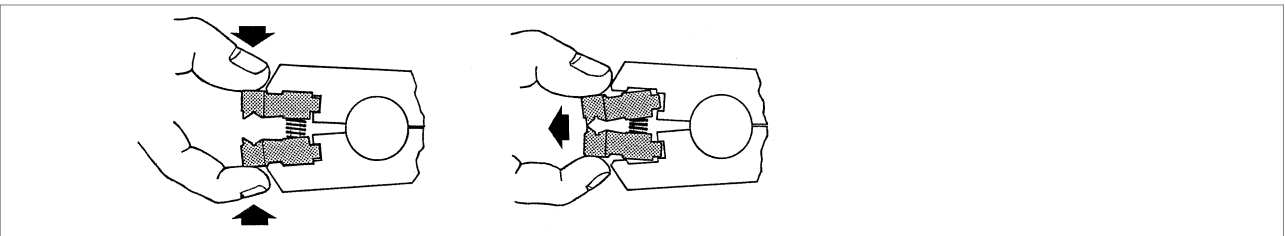

Fig. 12
- 1) Open the clamps (M) and (M1) completely by loosening the relative knobs (P) and (P1).
- 2) Take hold of the jaws with index finger and thumb, press inwards (fig. 12) and pull outwards until they come out of their seating.